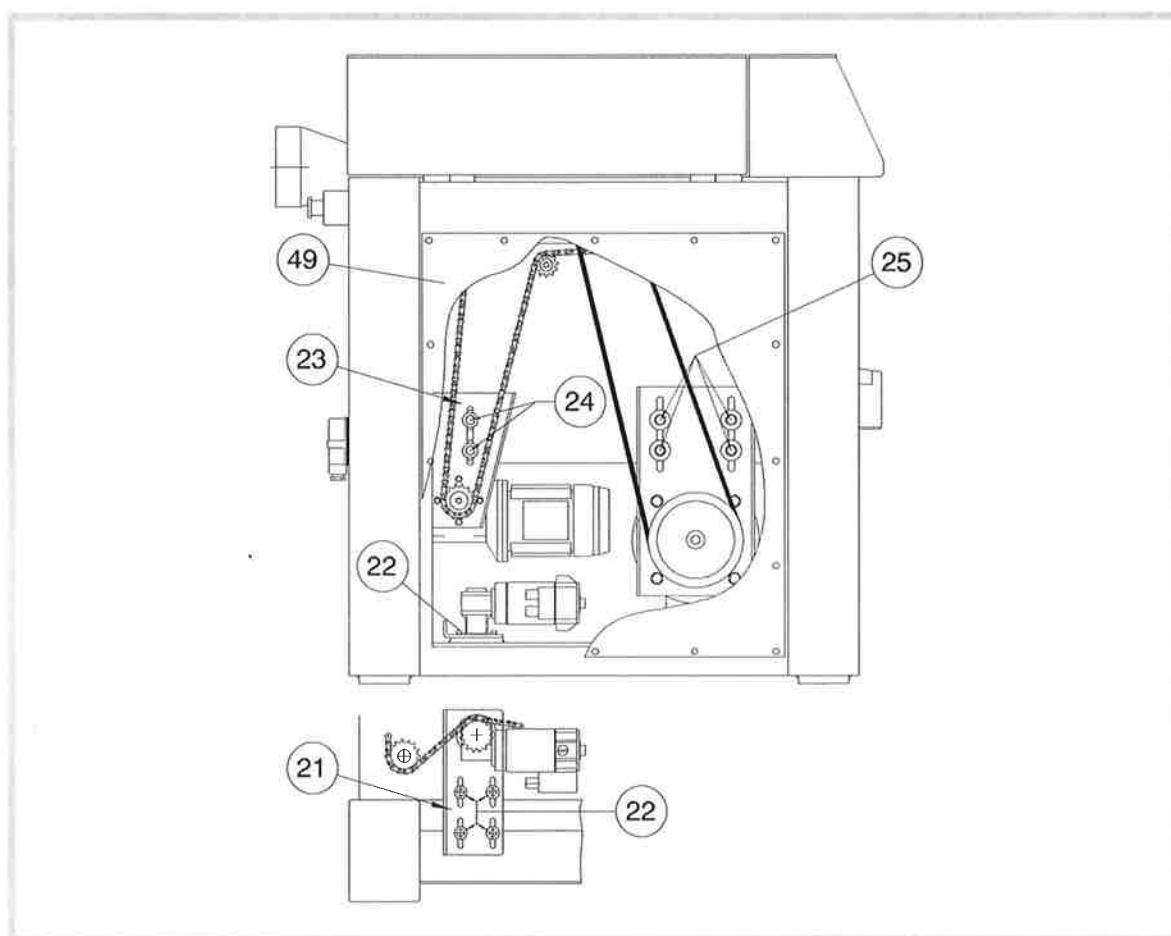

Fig. 22: Belt tensioning
- To reach the belts remove the cover (49) (Fig. 22).
- To tension the spindle driving belts loosen the screws (25) and apply a force to the motor to tension the belts; the tensioning is correct if, applying in the middle of the belt free section a load of 15 ÷ 22 N there is a movement of about 11 mm.
- remove the screw (14) and the washer (15);
- loosen the screw (16) and pull out the support (17) with the bearings, using the knobs (18);
- pull out the spacer (20), then all the roller rubber-coated elements (19) and replace them;
To reach the belts remove the cover (49) (Fig. 22).